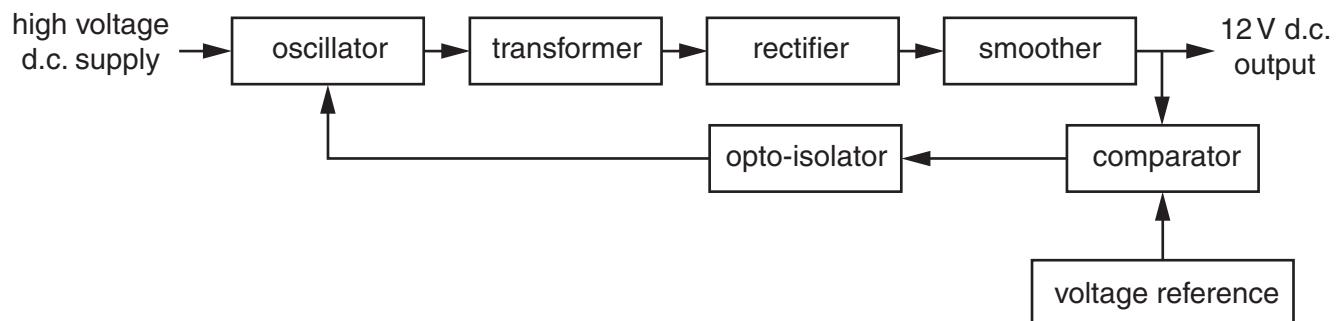

Fig. 3.1
- 3 Fig. 3.1 shows the block diagram of a switched mode power supply.
- (a) The system in Fig. 3.1 is a closed-loop control system.